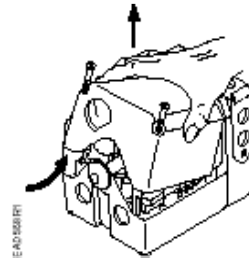

Figure 3.
- Lift the screws and raise the cover. See Figure 3.